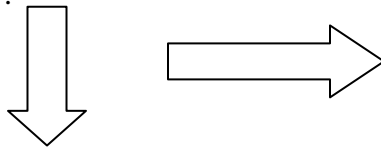
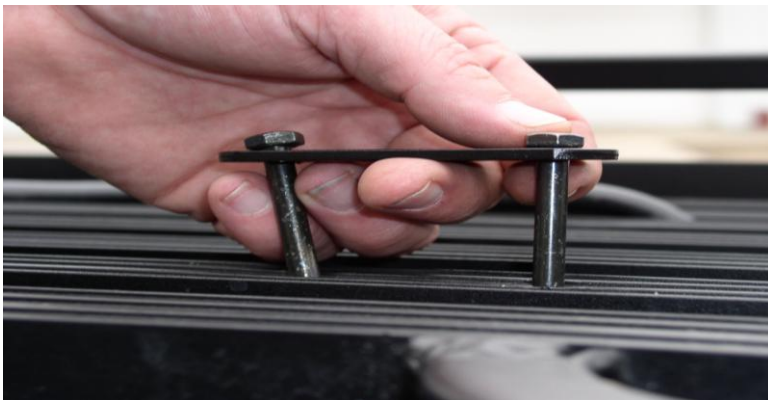

FIG 6A
FIG. 6
STEP 5-SEE FIG. 6 & FIG. 6A– INSTALL 2 HOLE PLATES THRU DRILLED HOLES WITH 2 1/2” BOLTS WITH RIV-NUT PLATES UNDER EXISTING ATV RACK AND TIGHTEN ALL HARDWARE SECURELY.